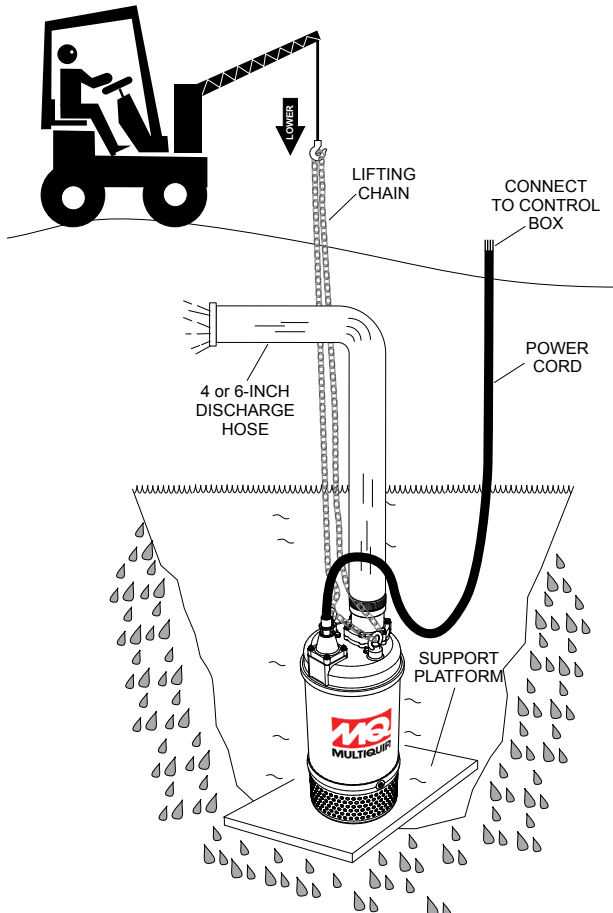

Figure 9. Placing the Submersible Pump (Correct Upright Position)
1. Attach a suitable lifting chain to the eye bolts or lift handle (Figure 9) on the pump. Use a crane, or similar lifting device and lower the pump into place. For applications where there is an excessive amount of mud, grit or silt, the use of a support platform is desirable.